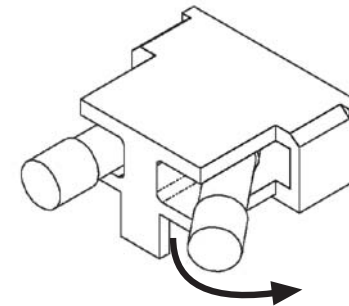

Figure 14. Removing fuses
- c. Disengage the fuses as shown in Figure 14. Replace with new fuses.